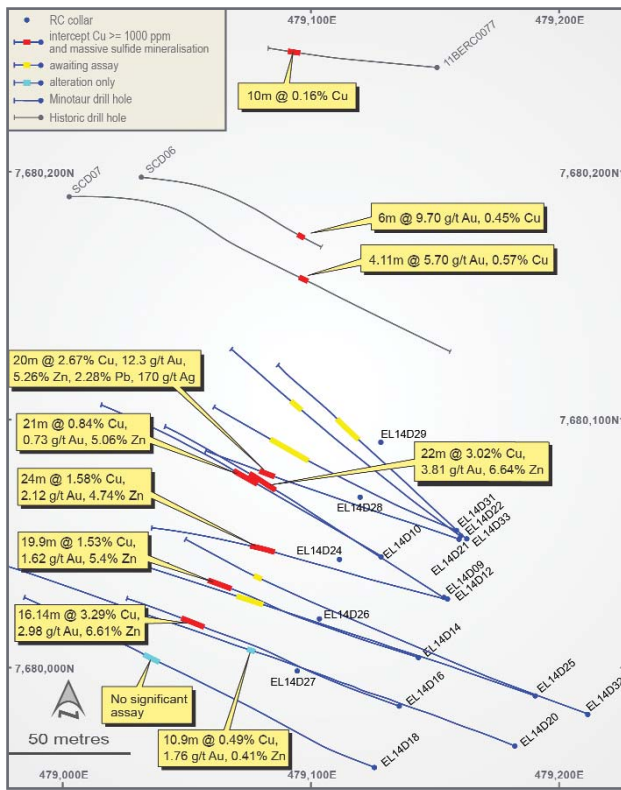

Figure 2: Plan of the Artemis Prospect with respect to current and previous drill holes and interpreted distribution of mineralisation.
Drilling continues at the Artemis copper-gold-zinc-silver prospect 20km west of the Eloise copper-gold mine (Figure 1) with focus on strike and dip continuity of mineralisation1,2,3. Nine diamond and five Reverse Circulation (RC) drill holes have been completed since recommencement of drilling at Artemis and two deep holes are in progress (Figure 2 and Table 1).